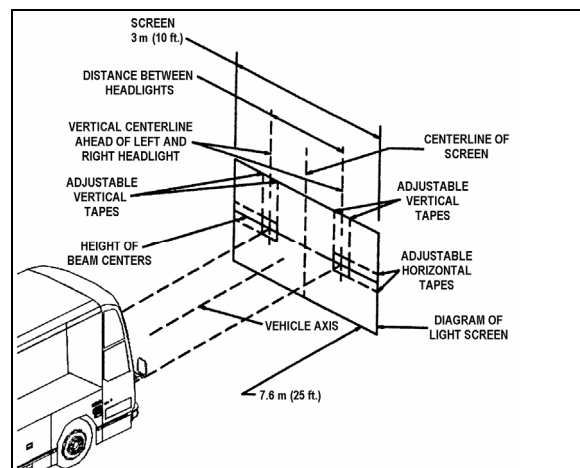

FIGURE 26: ALIGNMENT OF HEADLIGHT AIMING SCREEN
3. The headlight centerlines shall be spaced either side of the fixed centerline on the screen by $\frac{1}{2}$ the lateral distance between the light source centers of the pertinent headlights. The horizontal tapes should be located on the screen at the upper and lower limits called for in the specification with reference to the height of beam centers and the plane on which the vehicle rests, not the floor on which the screen rests (Fig. 26).
5. High beam headlights are aimed so that the center of the high-intensity zone is located at the horizontal and straight ahead vertically (Fig. 26).